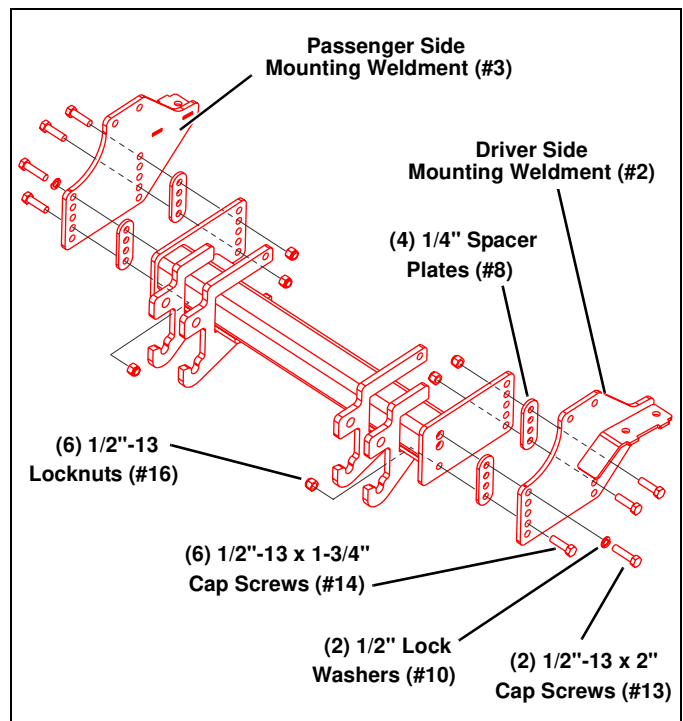

Figure 8
11. Secure the Vehicle Center Member (#1) to the Side Mounting Weldments (#2 & #3) using (4) 1/4" Spacer Plates (#8), (2) 1/2" Lock Washers (#10), (2) 1/2"-13 x 2" Caps Screws (#13), (6) 1/2"-13 x 1-3/4" Caps Screws (#14), and (6) 1/2"-13 Locknuts (#16). (See Figure 8.)